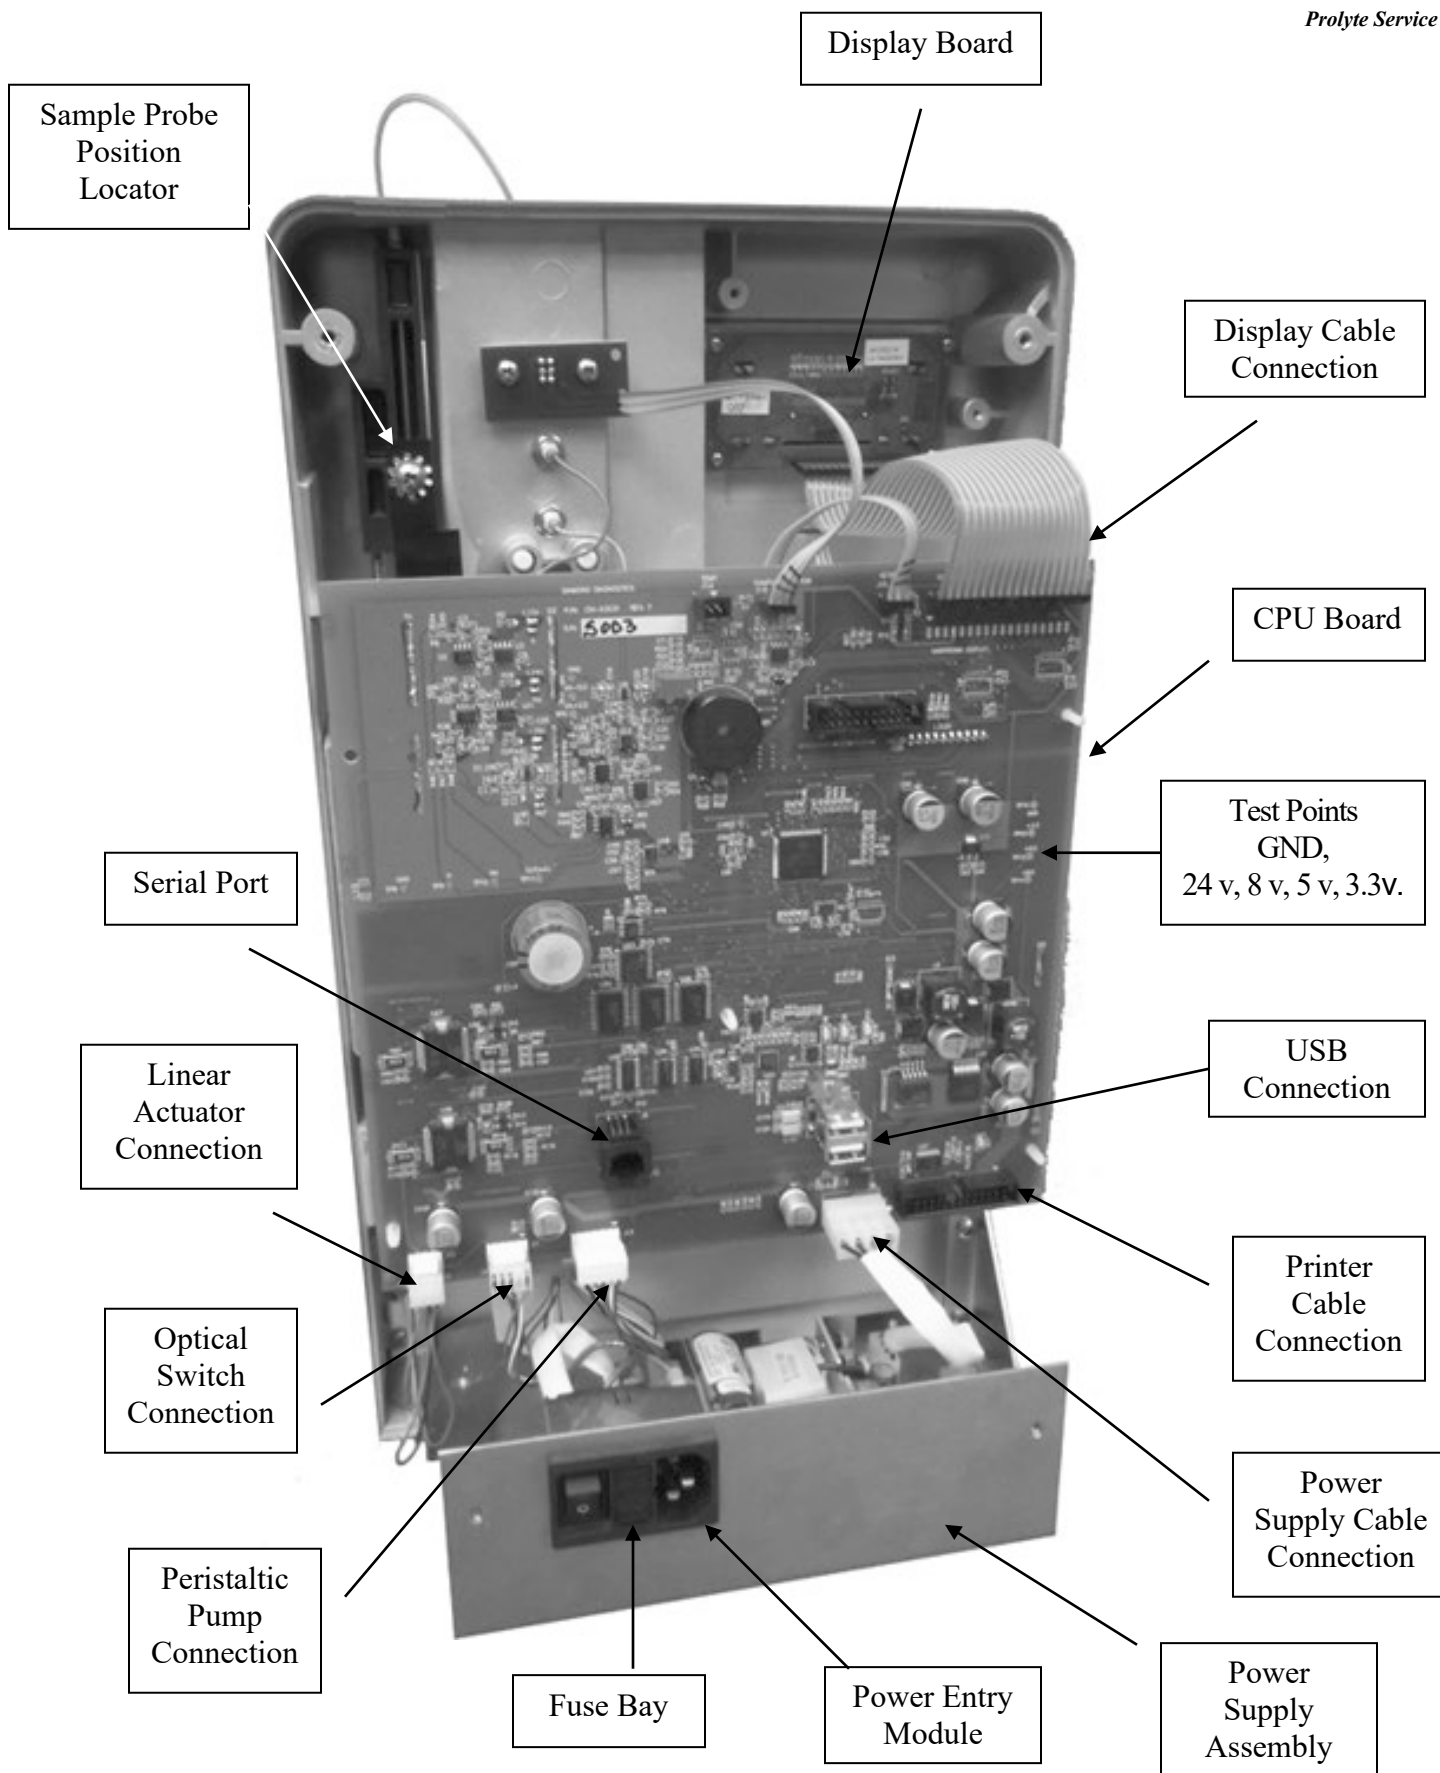

Figure P2 - Rear Assembly
(Figure P2)
2. Remove the two fuses from the fuse bay as depicted in Figure P2.